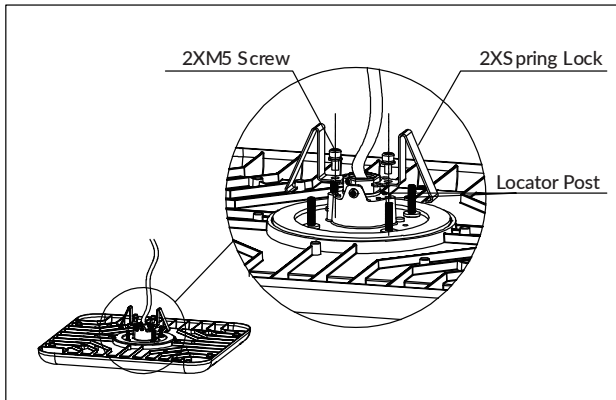

Figure 1
- Position the two Spring Locks onto the Luminaire Part's locator posts and fasten them with the provided M5 Screws (Figure 1).